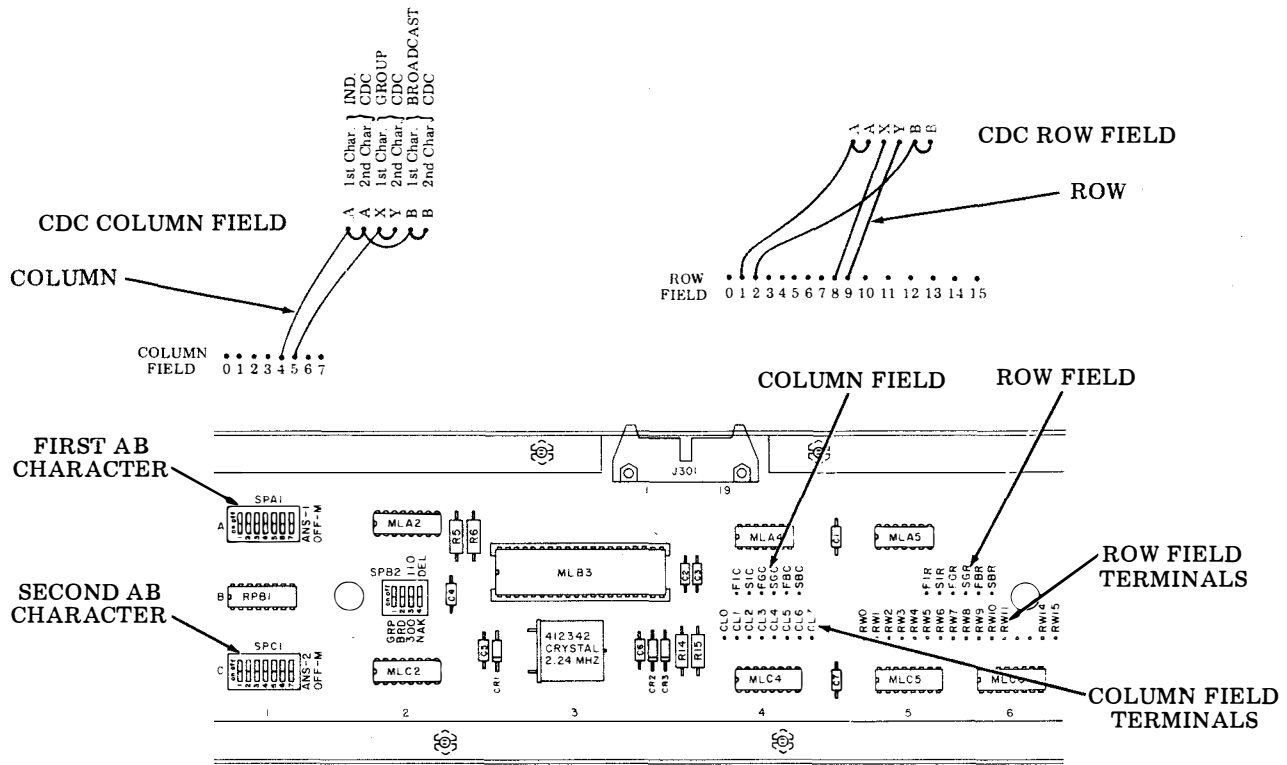

Fig. 9—CDC Row and Column Terminal Locations (New 410718 Circuit Card) and CDC Coding Example
2.24 The following is an example of coding six CDCs. If the six CDCs are AA XY BB, the twelve straps would be wired as shown. All terminals in the CDC field must be connected. If a group or broadcast CDC is not specified, the group or broadcast CDC should be coded the same as for the individual CDC. (See Fig. 9.)